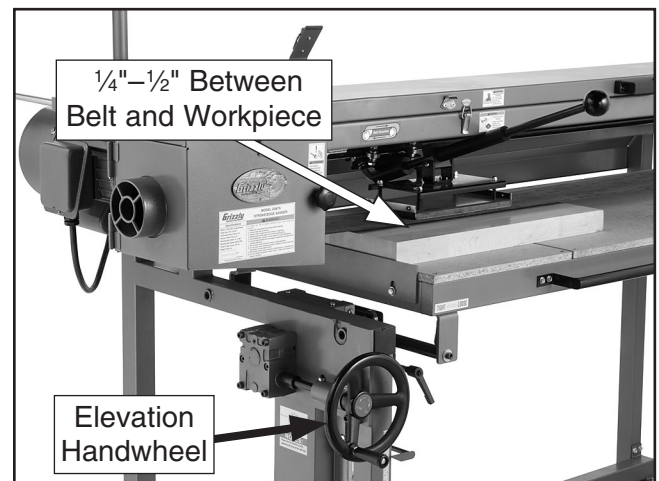

Figure 37. Vertical table movement.
2. Turn the table elevation handwheel to raise the table until the workpiece is $\frac{1}{4}$ "– $\frac{1}{2}$ " below the sanding belt (**Figure 37**).